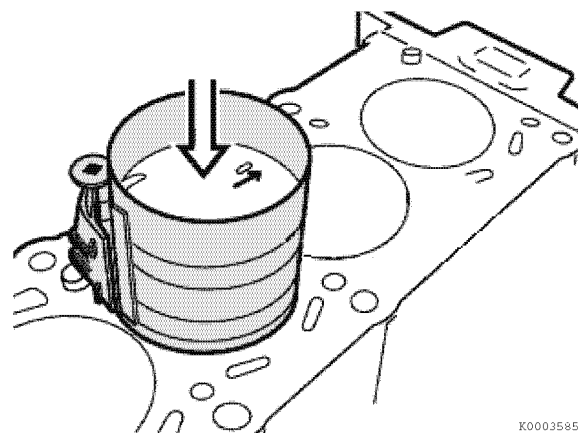

Figure 5-60
8. Carefully install the connecting rod and piston so that the arrow on the piston points toward the front end of the engine (**Figure 5-60**).